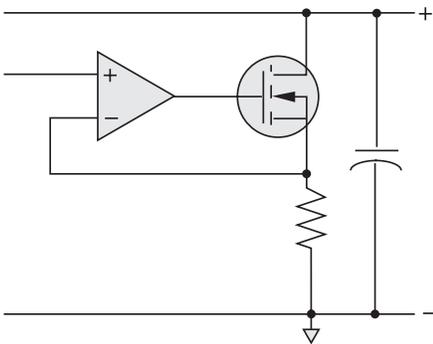

Figure 6. A down programming circuit with an FET across the output terminals
- In Figure 6, an FET is placed across the output terminals.